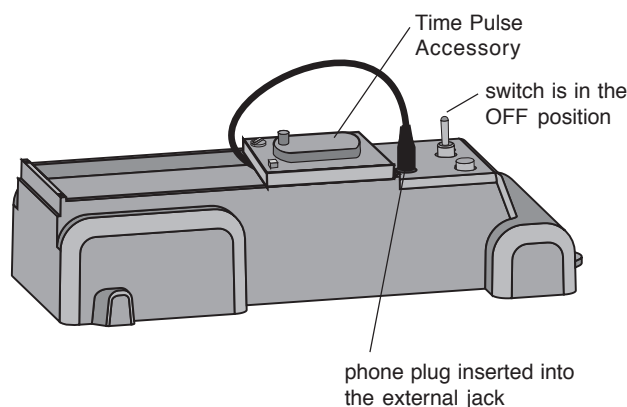

Figure 1
2. Plug the 3.5 mm phone plug into the external jack of the cart (Figure 1).